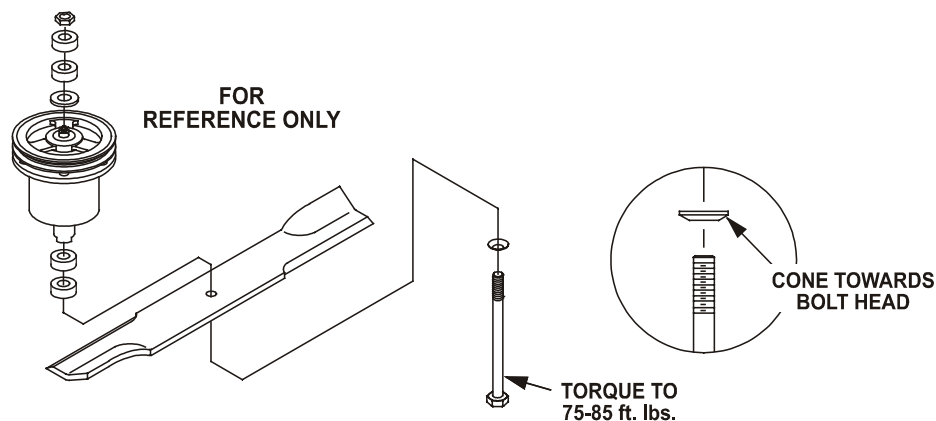

FIGURE 10
- g) Re-install the blades (if they were removed) and torque blade bolts to 75-85 ft. lbs. Be sure the spring disk washer cone is installed toward the bolt head (See Figure 10).